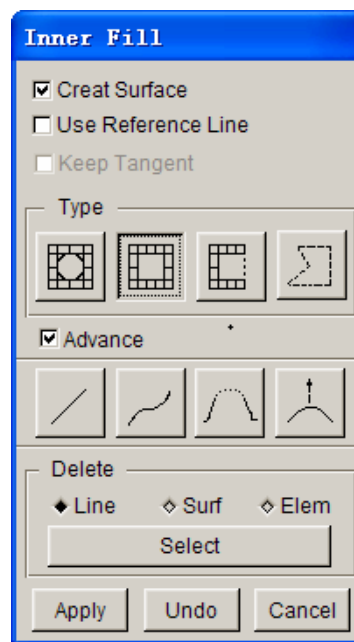

Figure 6.1.21 Inner Fill dialog box
The INNER FILL function is used to fill holes and missing geometry on outer boundary of the products such as windows, wheel houses, tail light lamps, access holes, bolt holes, etc. There are four functions available in INNER FILL dialog box as illustrated in Figure 6.1.21. These functions are:
**NOTE:** Click UNDO on the OPTION dialog box as illustrated in Figure 6.1.21. The filled mesh and surface will be removed.